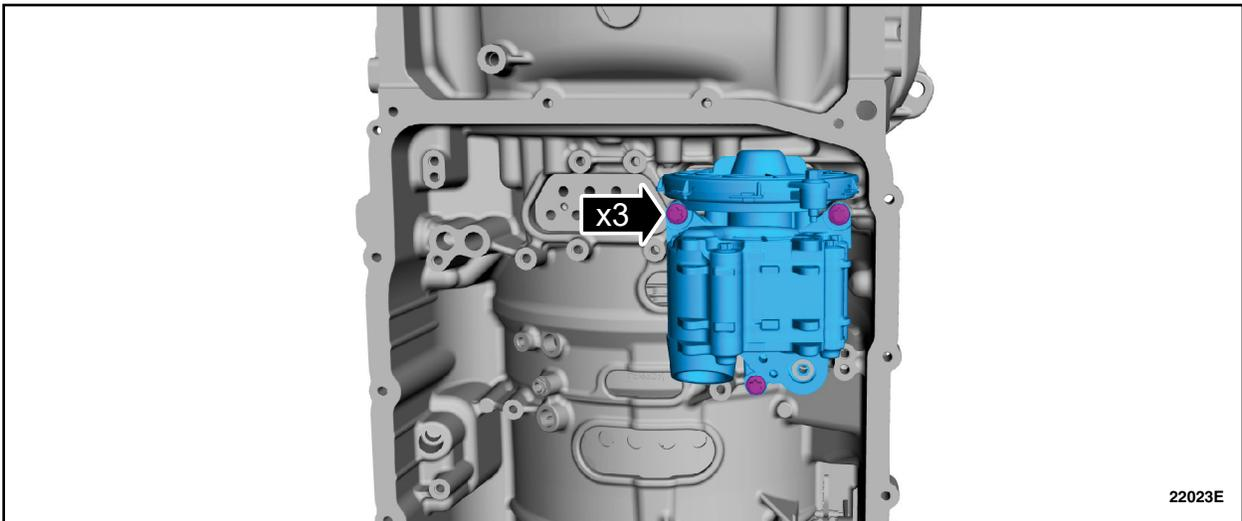

FIGURE 64
73. Install the transmission fluid pump and the bolts. See Figure 64.